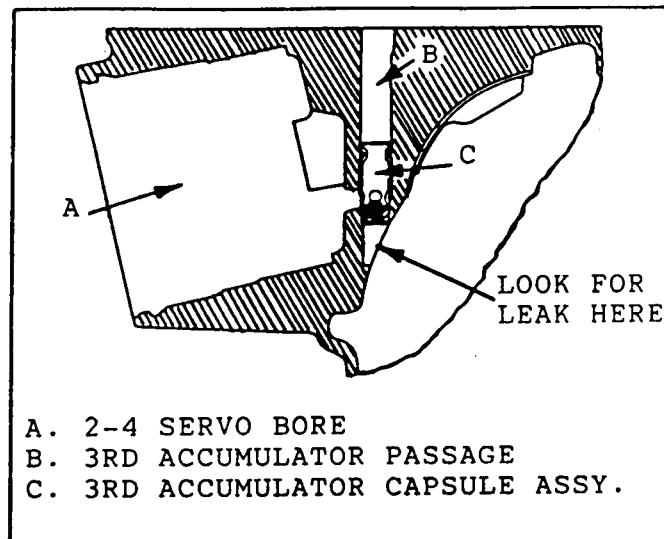

Figure 79
3. Pour a suitable solvent into passage that feed 3rd accumulator, from the valve body side (See Figure 79).
4. Watch for leakage inside the barrel of the case (See Figure 79).
2. Install new ball capsule assembly into case, seat end first (Figure 79).